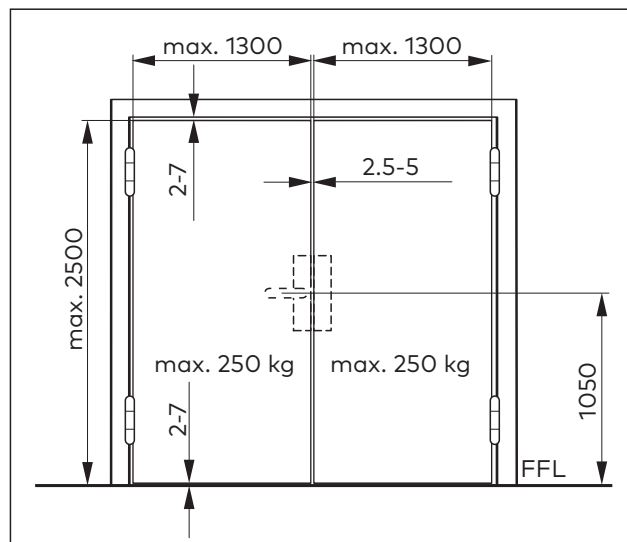

Fig. 18 Requirements for the door
- The door corresponds to the specifications in Abb. 18 and is deformed by a maximum of 5 mm.